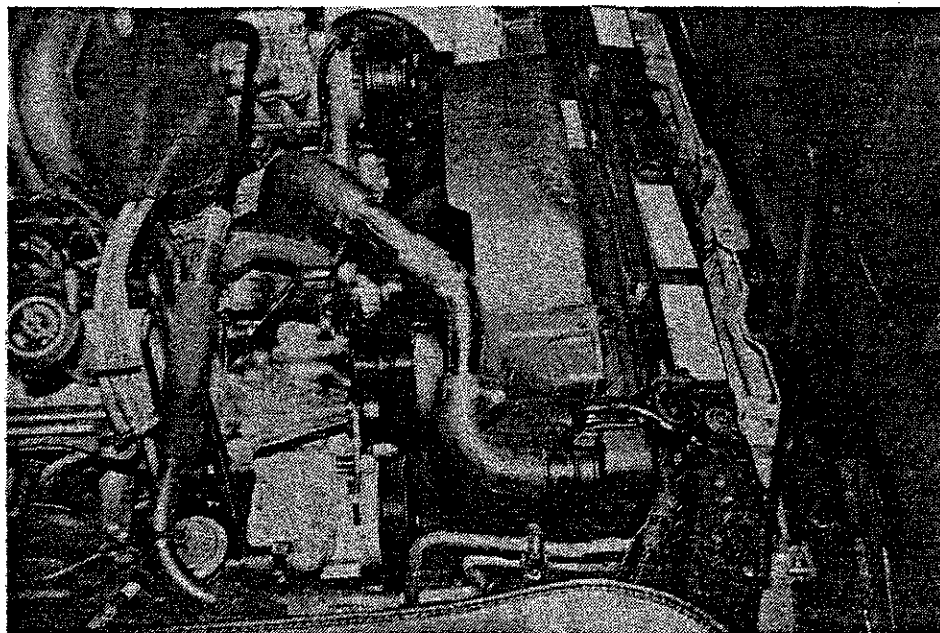

FIGURE 8
11. Place the furnished Water Pipe (P/N 48093) between the two 90° elbows, as shown in Figure 8. Place the short leg nearer the Radiator. (Do not re-install at this time.)